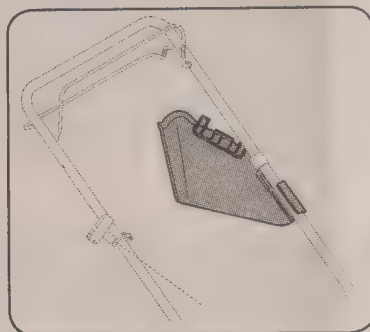

Figure 4-10
- Secure side discharge chute to handle (if applicable) as shown in Figure 4-10.